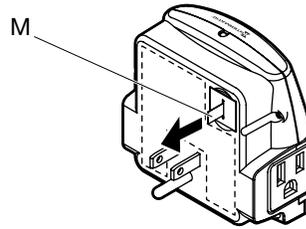

FIG 1. Removing the Pull Tab
1. Remove the pull tab (M) from the battery holder, if present. See FIG. 1.